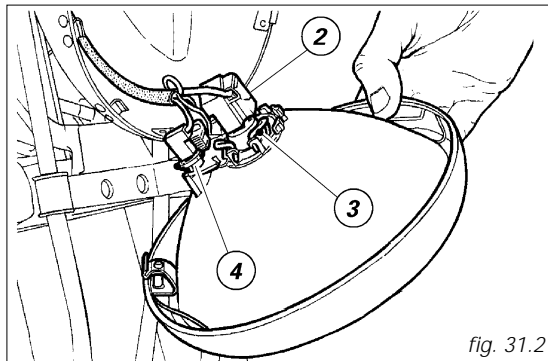

fig. 31.2
To gain access to headlamp bulbs, slacken the lower screw (1) holding the rim-reflector assembly to the body and disconnect the connector (2, fig. 31.2) from the headlamp. Release the clip (3, fig. 31.2) that secures the bulb and remove it from the socket.
E To change the parking light bulb, withdraw the bulb holder (4, fig. 31.2). The bulb is of the bayonet-type: press and rotate anti-clockwise to remove. Fit the spare bulb by pressing and turning clockwise until it clicks. Fit the bulb holder again and assemble the rim-reflector assembly.